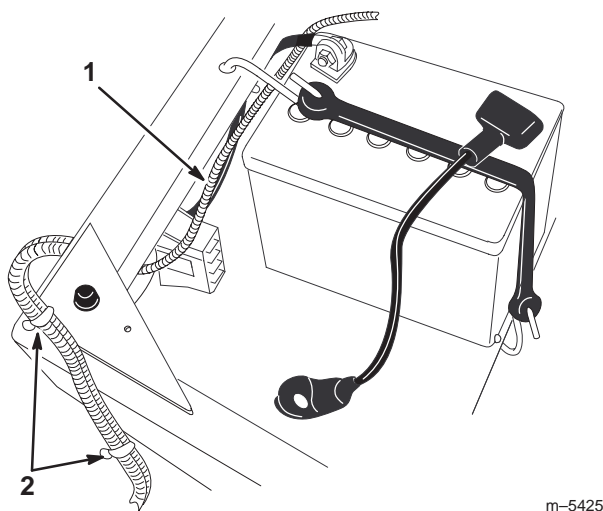

Figure 4
1. Route the wire harness over the rear frame, through the large hole in the rear panel, and behind the battery (Fig. 4). Pull the harness to remove slack.
2. Secure the light wire harness to the main wire harness with the 2 cable ties. Place one cable tie near the control panel and one near the rear frame rail (Fig. 4).